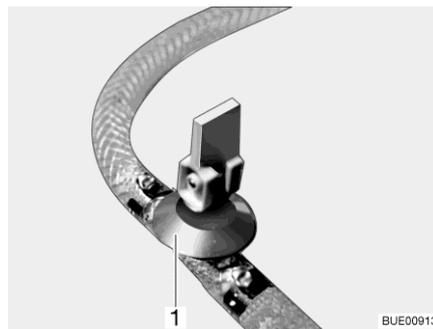

Fig. 230 Drain cock
- Close the drain cock(s). Position the rocking lever (Fig. 230,1) horizontally.
- Open drain cock(s) (Fig. 230). To do so, set the rocking lever (Fig. 230,1) in a vertical position. The boiler is drained to the outside.